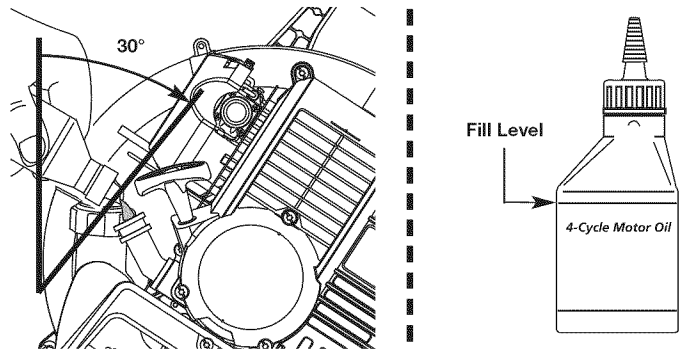

Fig. 22
4. Tilt the unit 30° to the side (Fig. 22).
**NOTE:** Use the bottle and spout saved from initial use to measure the correct amount of oil. The top of the label on the bottle measures approximately 3.04 ounces (90 ml) (Fig. 22). Check the level. See *Checking the Oil Level*. If the level is low, add a small amount of oil and recheck. Do not overfill (Fig. 22).